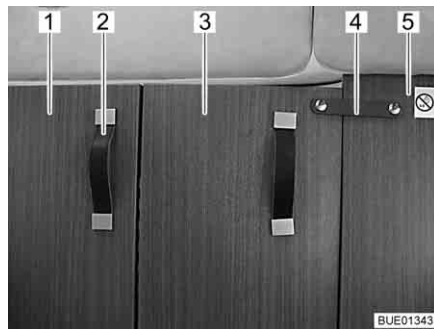

Fig. 50 Driver's cabin partition, closed
- Pull the driver's cabin partition (Fig. 50,1) completely inwards using the handle (Fig. 50,2).
- Using the securing strap (Fig. 50,4), secure the folding section of the driver's cabin partition (Fig. 50,3) to the fixed partition wall (Fig. 50,5) behind the front passenger seat.